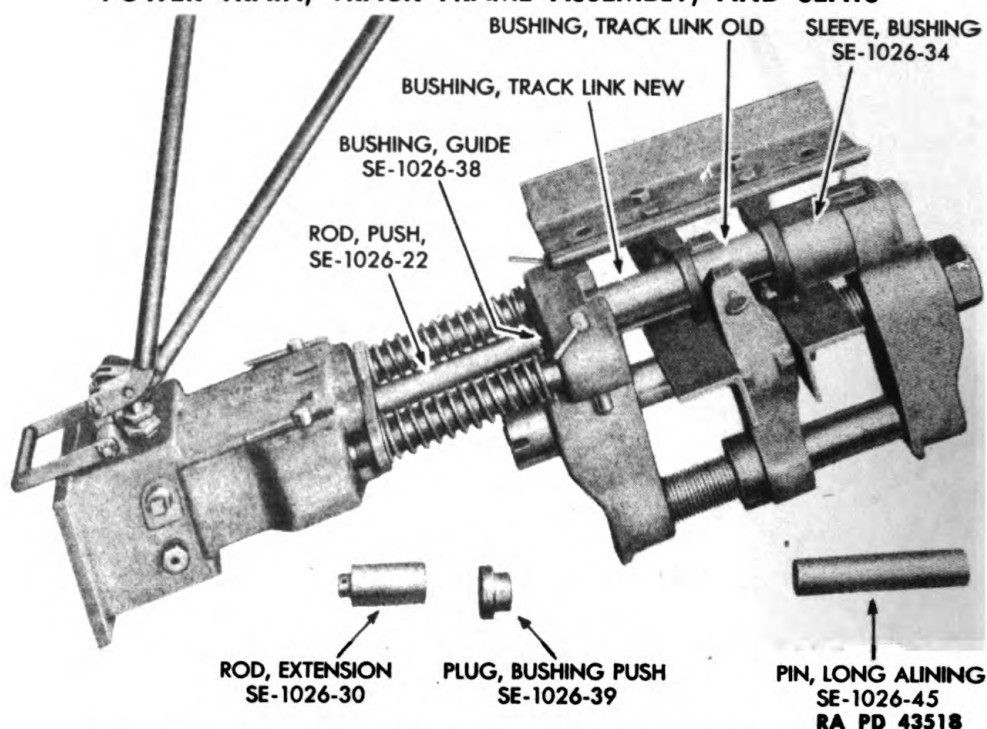

Figure 164 — Pushing Old Bushing Out and New Bushing In, in Same Operation (Shoes Assembled)
(8) PUSH OLD BUSHING OUT AND NEW BUSHING IN, IN SAME OPERATION (WITH SHOES ASSEMBLED TO LINKS) (fig. 164).